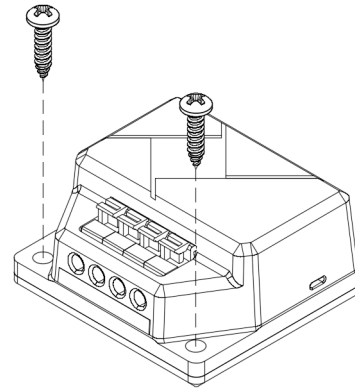

Fig. 1 — Attaching to a Surface
3. Secure the XPD-P2H using the provided mounting holes for surface installation (fig. 1).